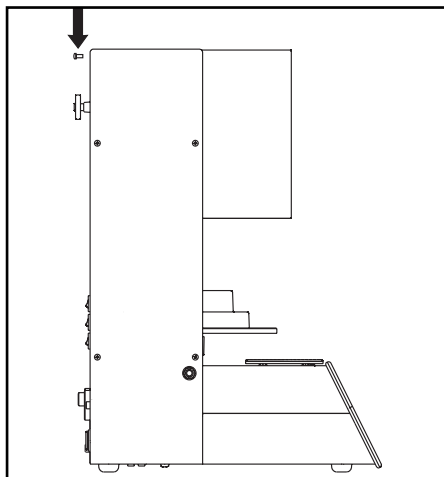

Fig 1A
3. Remove screw from rear panel. Fig. 1A